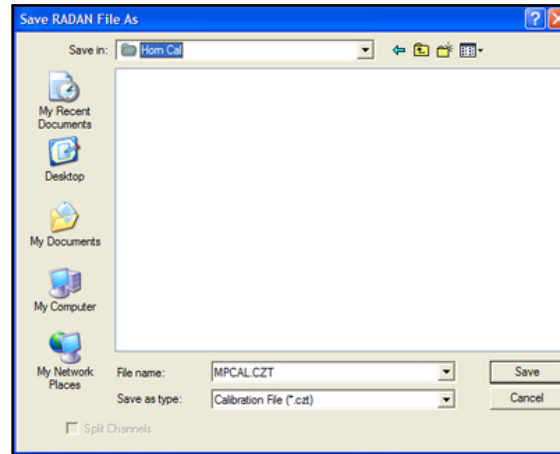

Figure 79: Horn Cal Folder.
- 5** Save this file in the Horn Cal directory. This directory is part of your RADAN program, you do not need to create it (Figure 79). Pull down the Save In menu and browse to find the Horn Cal folder. It will be located in C:\Program Files\GSSI\RADANXP\. Make sure that the CZT file is saved to this directory. After it saves, you will see the short calibration file on the screen. Close that short file and leave the long, wave file on the screen.